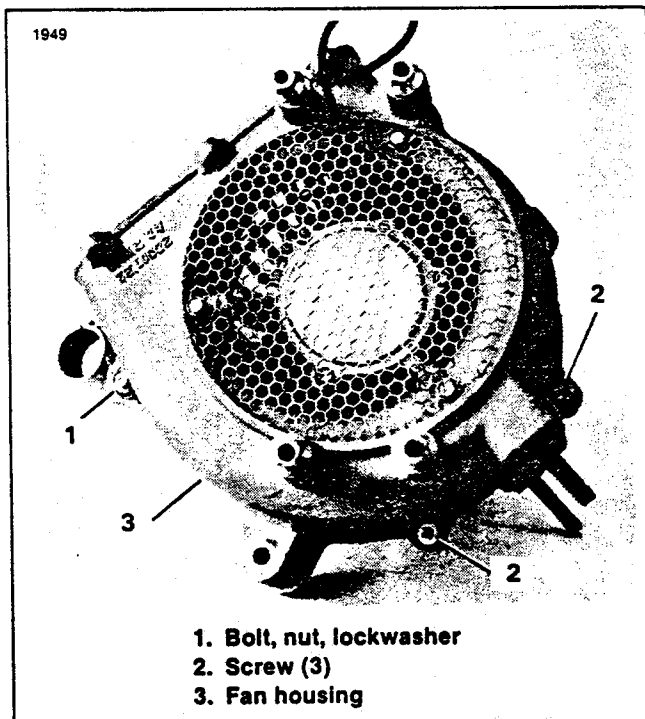

Figure 5-15. Removing Fan Housing
5. See Figure 5-15. Remove the stabilizer bolt and nut (1), screws (2) and pull fan housing (3) free.
- See Figure 5-15. Install fan housing (3), stabilizer bolt and nut (1) and fan housing screws (2).